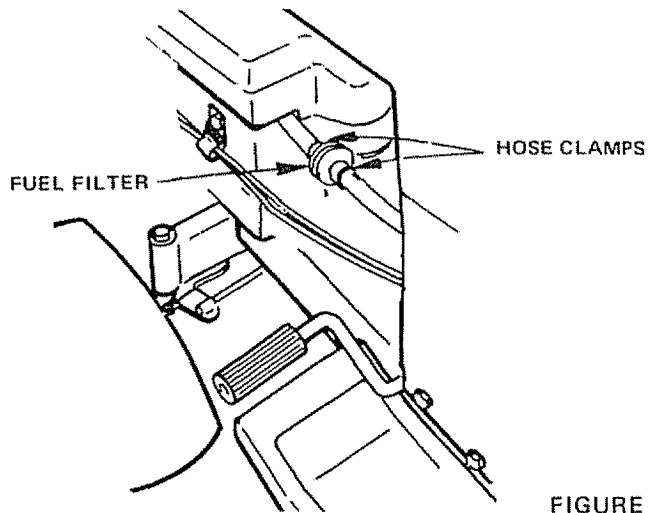

FIGURE 36
- Remove Hose Clamps from Fuel Lines at Fuel Filter (Fig. 36).
WILL NOT START Clutch-Brake Pedal in drive position Attachment Clutch Lever in "ENGAGED" position No gasoline in Fuel Tank or clogged Fuel Line or Fuel Filter Blown Fuse Dead Battery Defective Ignition or loose Wiring Spark Plug fouled	Push Pedal into brake position (Fig. 8). Move Lever to "DISENGAGED" position (Fig. 9) Fill Tank with fresh Gasoline. Check Fuel Filter (Fig. 36) and Carburetor (clean if necessary) Check for fault and replace Fuse Recharge or replace Battery Check Wiring Replace Spark Plug and adjust gap (Fig. 34)
HARD TO START Choked improperly, flooded Engine Clogged Fuel Tank, Fuel Line or Fuel Filter Spark Plug fouled Defective Battery Defective Ignition or loose wiring Water in gasoline or old fuel Improper Carburetor adjustment Poor compression	Place Throttle Control in fast position (Fig. 9) and with choke pushed in run starter several times to clean out gas Remove and clean. Replace Filter (Fig. 36) Replace Spark Plug and adjust gap (Fig. 34) Recharge or replace Check the wiring and Spark Plug Drain Fuel Tank and Carburetor, use fresh fuel and replace Spark Plug Make necessary adjustments (page 17) Major engine overhaul
ENGINE MISSES OR LACKS POWER Engine overloaded Clogged Fuel Filter Clogged Fuel Tank Partially plugged Air Cleaner Improper Carburetor adjustment Dirty Air Screen Low oil level Spark Plug fouled, improper gap or wrong type Faulty ignition Poor compression Gasoline in oil Dirty Air Cleaner	Shift to a lower gear or reduce load Remove and replace (Fig. 36) Remove and clean Remove and clean (Fig. 29) Make necessary adjustments (page 17) Clean Air Screen, Cooling Fins (Fig. 33) and Muffler Add or change oil (page 14) Replace Spark Plugs and adjust gap (Fig. 34) Check Spark Plugs and for any loose wires Major Engine overhaul Drain Engine oil and refill Remove and clean (Fig. 29)